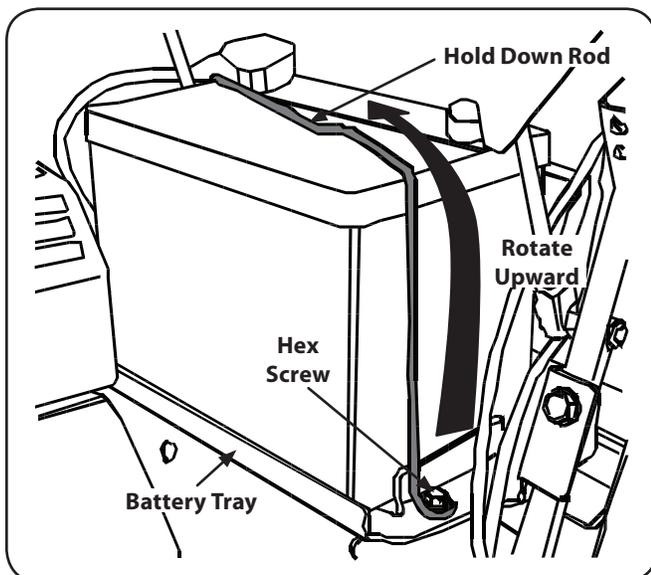

Figure 7-1
2. Remove the hex screw securing the LH side of the hold down rod to the battery tray. See Figure 7-1.